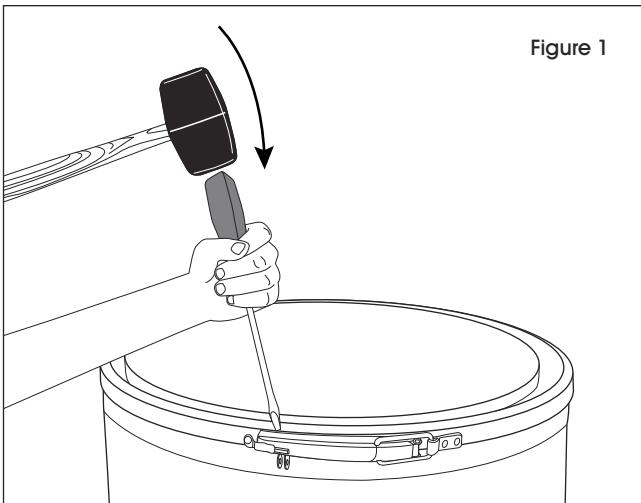

Figure 1
1. Place tip of screwdriver against the flat edge of the locking tab. (See Figure 1)
2. Strike the top of the screwdriver with a mallet. Locking tab will be forced down, releasing the handle. (See Figure 1)